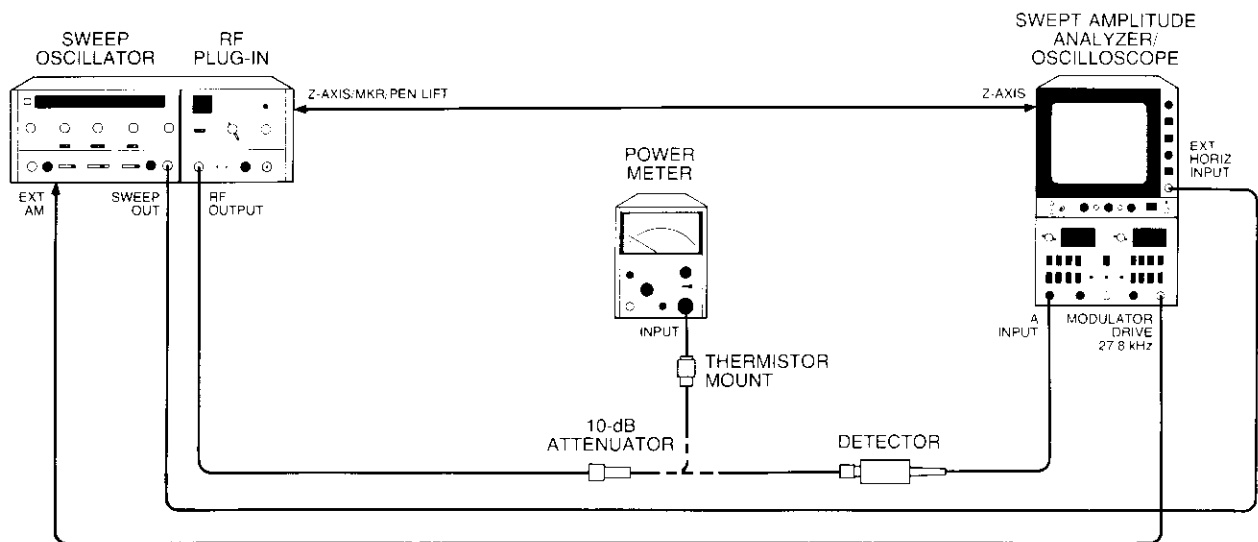

Figure 5-11. 8755A Calibration Test Setup
Equipment listed is for four test setups, Figures 5-11, 5-12, 5-14 and 5-15. If equipment listed is not available, go to paragraph 5-27 and perform alternate ALC adjustments.
- a. Connect equipment as shown in Figure 5-11 with power meter connected to 86290A RF OUTPUT. Do not connect 8755A MODULATOR DRIVE to 8620C EXT AM input.